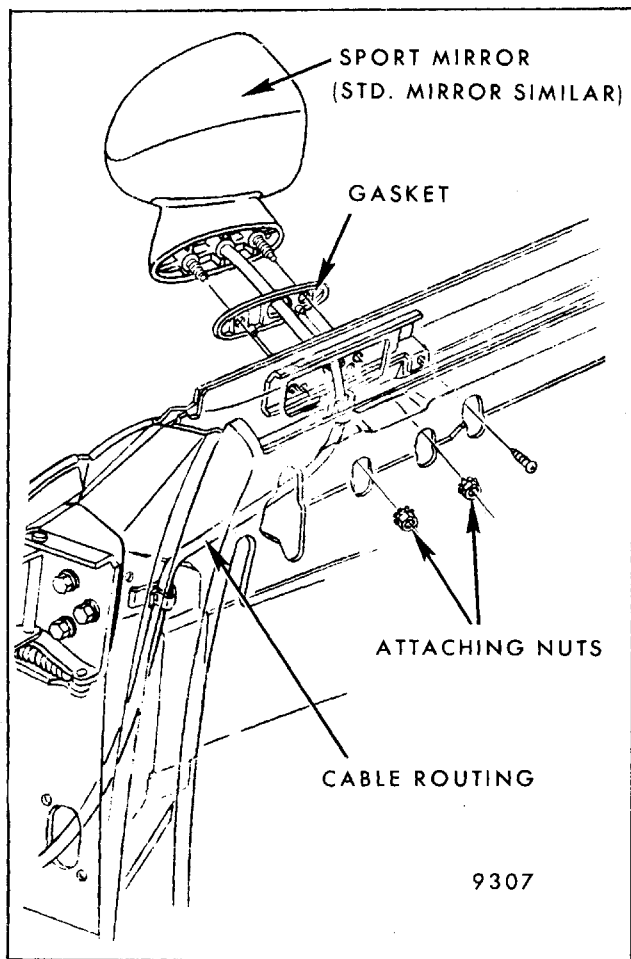

Fig. 5-108 - Door Outside Remote Mirror - Typical, All Styles - Right Side
4. Remove stud nuts (Fig. 5-108) and remove mirror and cable assembly from door.